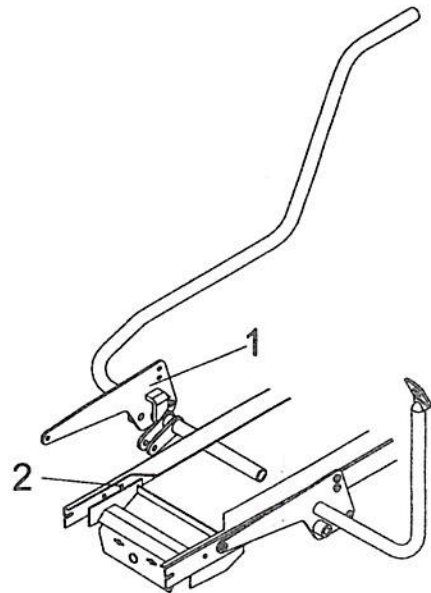

Figure 4
- e) To install the right support you must drill two 11/32" (9mm.) holes in the frame, using the support (fig. 4, item 1) as a template to drill. Unscrew the second bolt on the front right side (item 2) & use this bolt to secure the front portion of the support. Place the rear portion at the same height as the left side and hold in place temporarily using vise grips while you drill the holes. Remove the support.
- g) Install the right support assembled with the arm lift on the tractor by sliding the end of the arm into the sleeve welded on the left support. Attach the support (fig. 4, item 1) to the tractor using the bolts previously removed to secure the front portion. The rear must be installed using two hex. bolts 5/16 x 3/4" and flange nuts. Do not tighten yet.